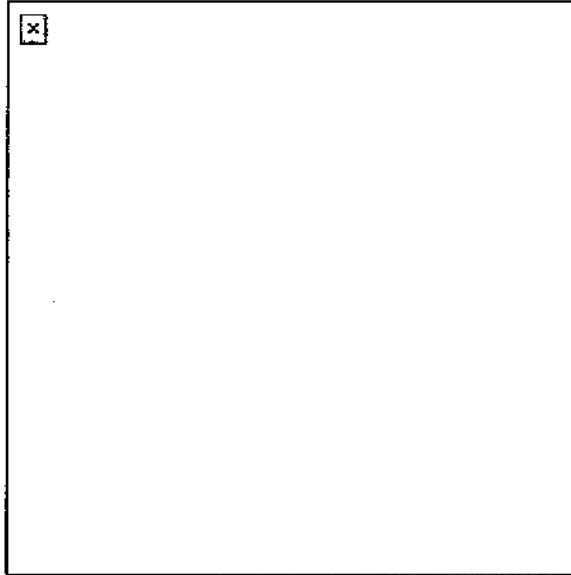
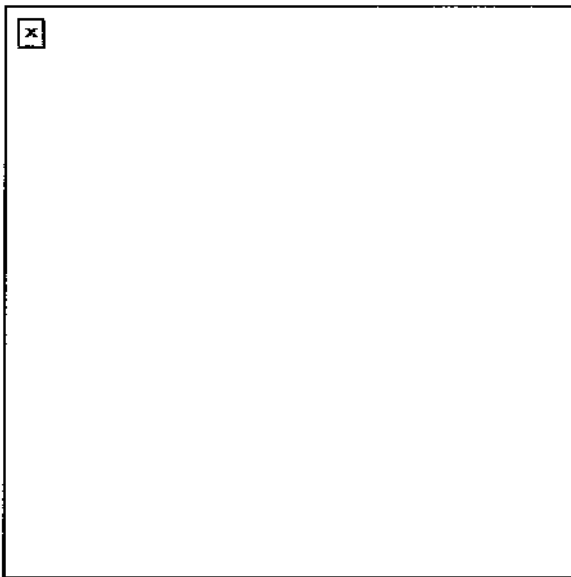

Figure 4. Sample 25-meter zeroing target for M16A1.
Figure 5. Sample 25-meter zeroing target for M16A2.
- b. Repeat Task Step 5 and Task Step 6 until the center of the shot group is 7 centimeters below the target aiming point as shown in Figure 4 and Figure 5.
**EXAMPLE:** From the center of the shot group in Figure 4, move the azimuth adjustment actuator 11 clicks to the left.
- From the center of the shot group in Figure 5, move the azimuth adjustment actuator 9 clicks to the left. Move the elevation adjustment actuator 16 clicks.